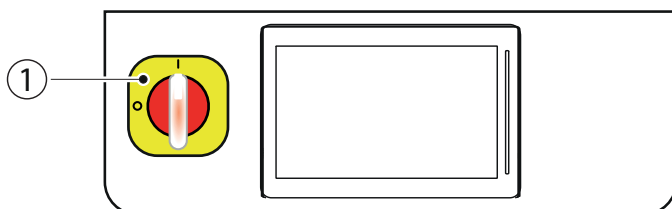

Fig. 6.a
1. switch on the pumping station by turning the disconnect switch (1 - Fig. 6.a) from O (OFF) to I (ON)
2. switch on all the zone panels (if present) by pressing the power button on the side of the device (2 - Fig. 6.b).